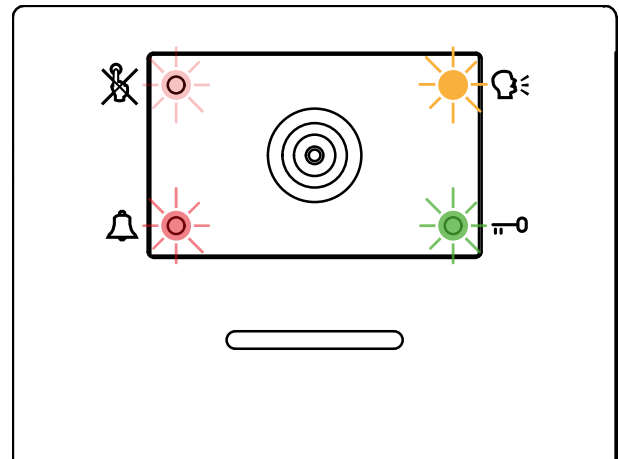

Fig. 11 Door panel in BOOTLOADER mode
- The door panel goes in boot mode recognized by the four LEDs flashing alternatively (Fig. 11).